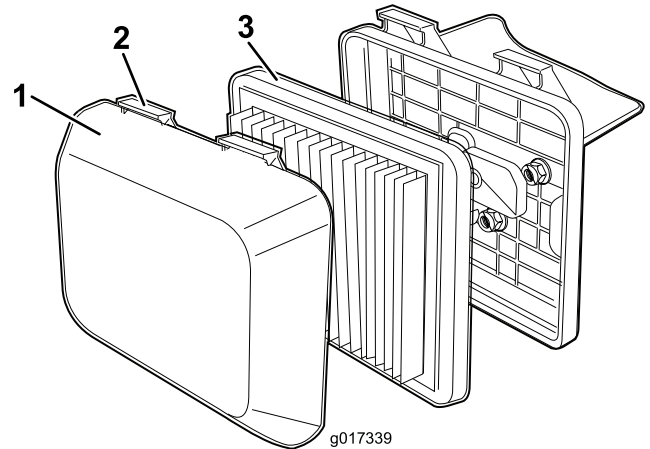

Figure 20
1. Press down on the latch tabs on top of the air-filter cover (Figure 20).
3. Remove the air-filter elements (Figure 20).